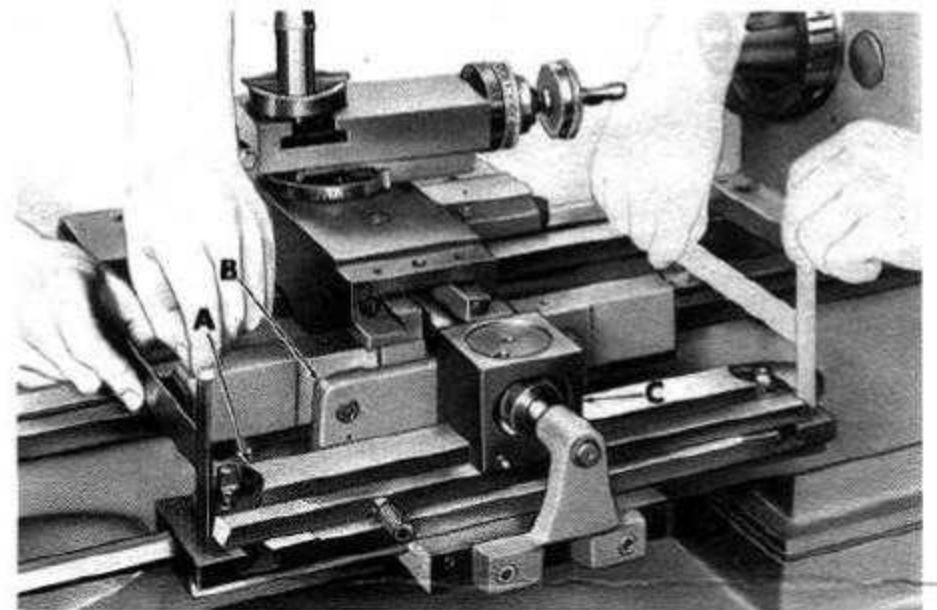

Figure 7
11. Slide taper bar (A, fig. 7) on support bracket (B) and into taper slide (C).
12. Check taper bar to make sure it is parallel with top of bed ways -- place a straight edge across bed ways, and measure the distance between straight edge and top surface of bar. Reading should be identical at both ends. If not, adjust the support bracket (B) until readings are identical; then tighten screws securely.